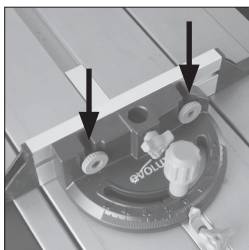

Fig. 22
- Slide the attachment screws through the two (2) holes in Mitre Gauges vertical face and secure in place with the thumb nuts (**Fig. 22**).